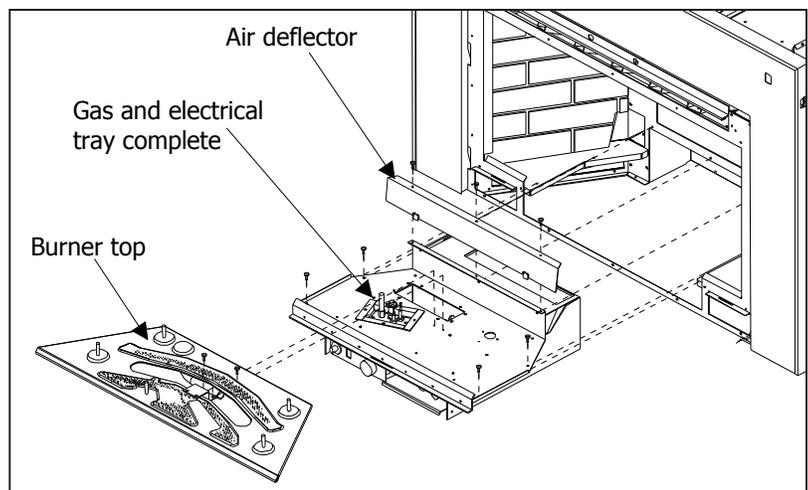

Figure 7: Removing Burner and Gas Tray.
2. Remove the burner tray top by removing the two (2) T-20 screws located in the center of the burner tray (see Figure 7). Slide tray to the left and lift out.
6. Remove the three (3) T-20 screws that hold the air deflector in place on the back firewall (see Figure 7) and undo the remaining screws that hold the burner assembly in the appliance. Carefully remove the gas tray assembly from the firebox, ensuring that wires and gas lines are not damaged.